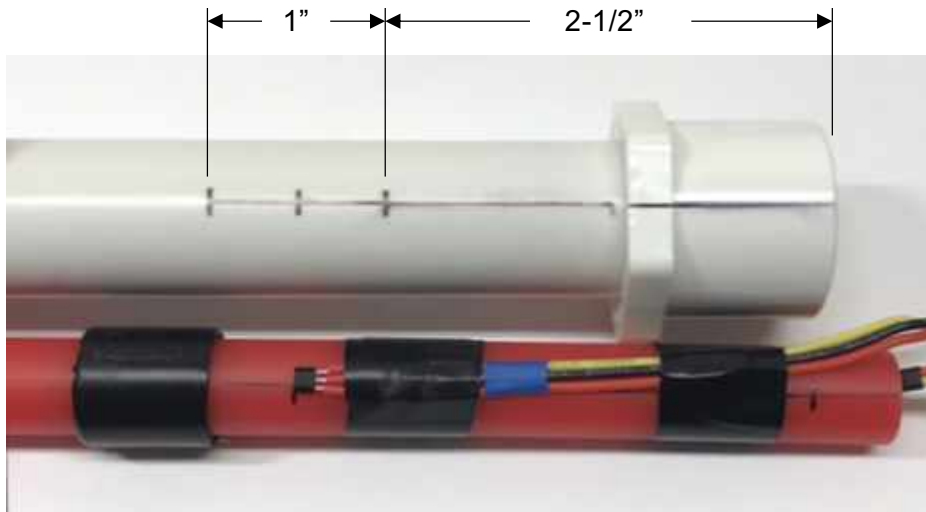

Figure 3.10
13. Mark the pipe and busing adapter (the glued assembly from step 11) as shown in Figure 3.10.